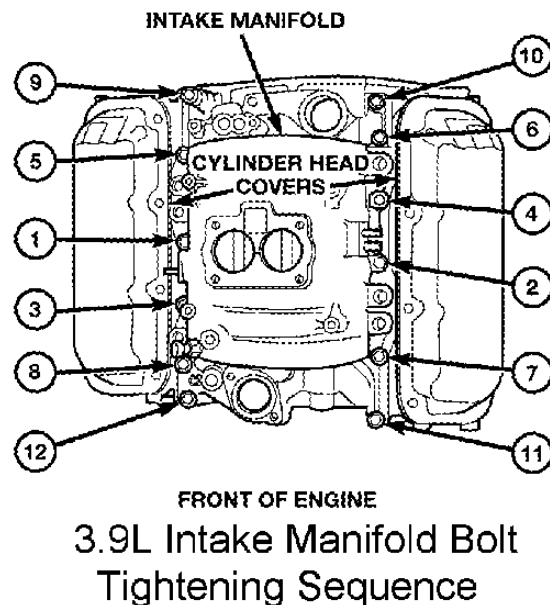

FIGURE 4
3.9L Intake Manifold Flange Bolt Torque Procedure \(Figure 4\)